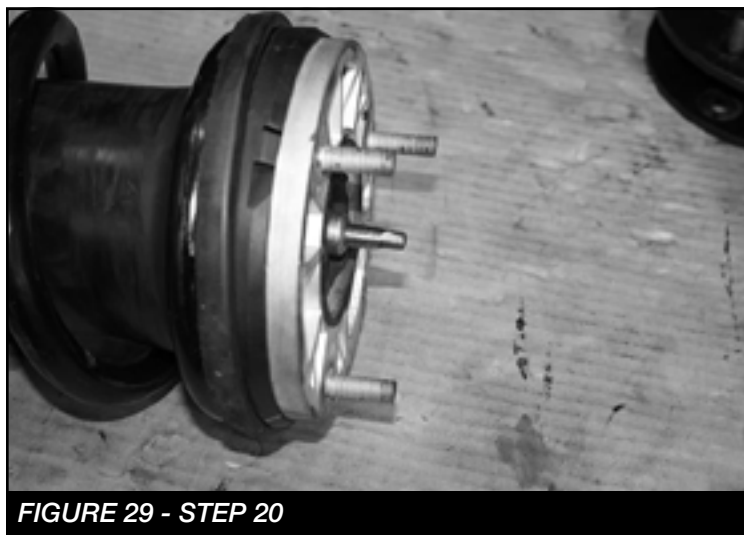

FIGURE 29 - STEP 20
20. Locate the three top cap studs. Measure and mark 1-1/8" from the base of the studs. Using a cut off wheel, cut the excess of the stud off. **SEE FIGURE 29**